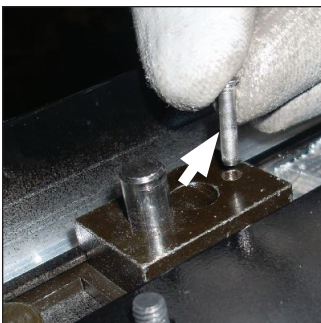

Fig 3.3 Pull the locking pin free from the door-squaring mechanism.
2. While holding the hinge pin in place with the Hillphoenix door tool, look on top of the cornice and pull the locking pin free from the door-squaring mechanism (Fig. 3.3).